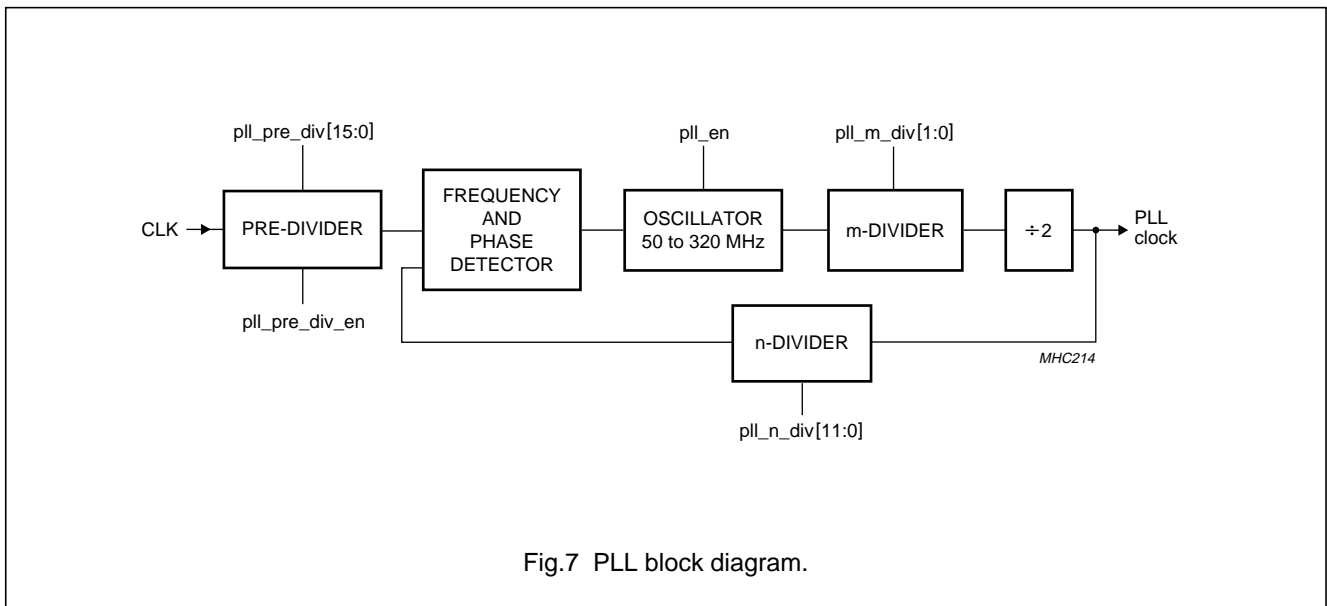

Fig.7 PLL block diagram.
- PLL running on the system clock generating the panel clock (see Fig.7).